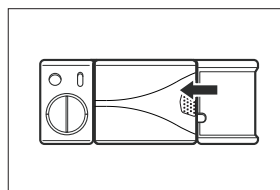

Fig. 8
2. Add detergent to the dispenser main chamber (A) just before the washing cycle (Fig. 8). For better cleaning results, especially if you have very dirty dishes, pour a small amount of detergent directly onto the inner door recess (B). The detergent thus added is already activated during the pre-wash phase.
For washing larger items (pots, pans, etc.) tilt the plate holders in the lower rack (Fig. 8).